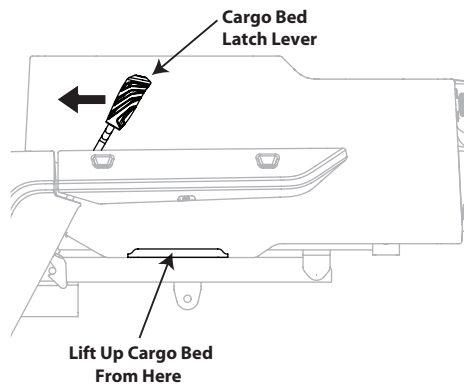

Figure 3-10
3. For light loads, unlatch cargo bed by pushing forward on the cargo bed latch lever. While holding the latch lever forward with one hand, lift the cargo bed with your other hand. See Figure 3-10.